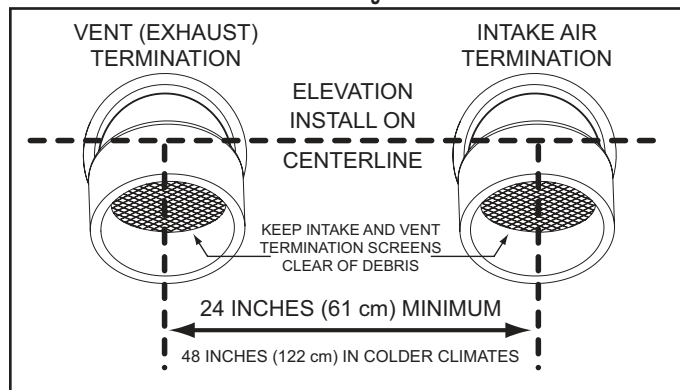

Figure 22. Sidewall Termination - Direct Vent
4. If installing both an intake air and vent termination in a Direct Vent configuration through a sidewall there must be a minimum of 24 inches (61 cm) separation, measured on vertical center line, between the intake air and vent terminations. See **Figure 22**.
5. If installing both intake air and vent terminations in a Direct Vent configuration through a sidewall the intake air and vent terminations must be installed at the same elevation measured on horizontal center line. See **Figure 22**.
However, the distance between the closest vent and intake air terminations must be a minimum of 24 inches (61 cm). In colder climates this separation should be increased to at least 48 inches (122 cm). See **Figure 22** (page 27).